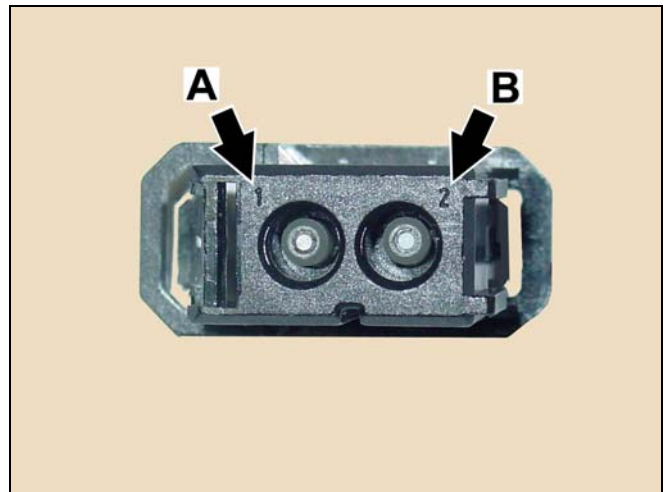

Figure 19
- Remove the fiber labeled “SOUND” from slot 2 (B, Figure 19) of the MOST connector and insert the fiber labeled “SOUND 2” in its place